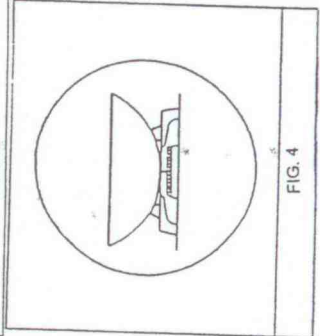

FIG. 4
- Use only a wok support supplied or recommended by the manufacturer of the appliance (fig. 4).